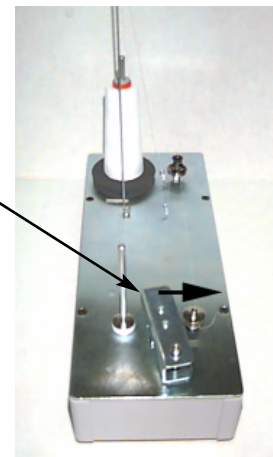

Figure 3-26
3. Move the actuator lever to the ON position (see Figure 3-26) and winding will begin. The winder automatically stops when the bobbin is wound completely.